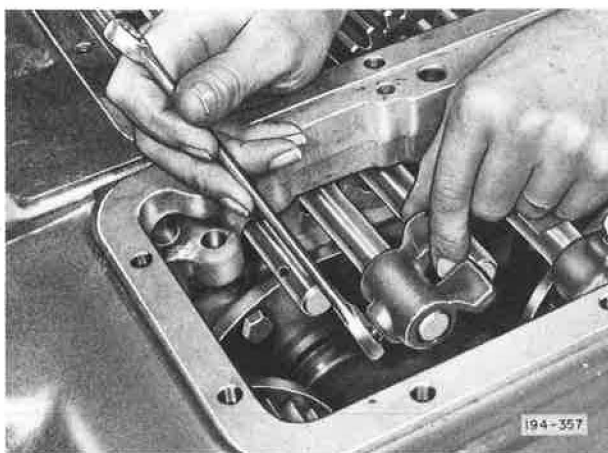

Figure 5-212. Installing Shifters on Shift Rails
3. Install shifters on shift rail. Install shifter set screw and tighten to recommended torque. See Figure 5-212.